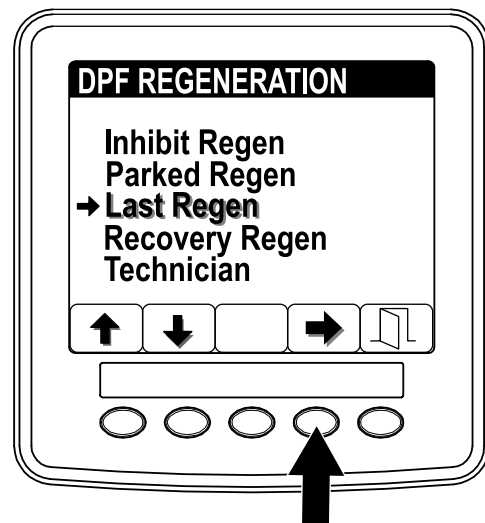

Figure 34
2. Press the button 4 to select the Last Regen entry (Figure 34).
1. Access the DPF Regeneration menu, and press buttons 1 or 2 to scroll to the LAST REGEN option (Figure 34).